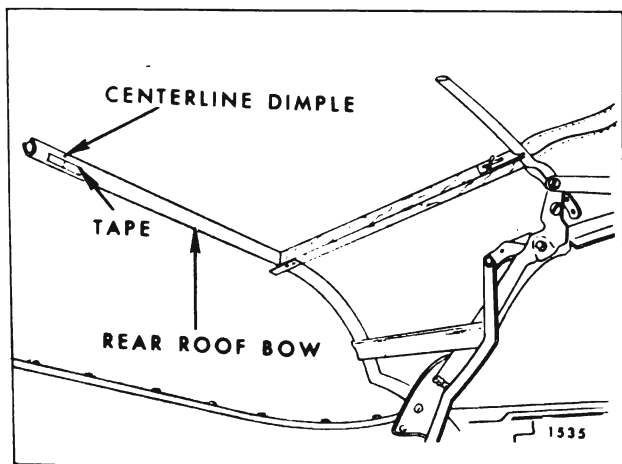

Fig. 13-24 — Marking Rear Roof Bow
24. Along forward surface of rear roof bow install a 1" piece of tape at centerline dimple of rear roof bow. Using a pencil, mark centerline of rear bow on tape (Fig. 13-24.)